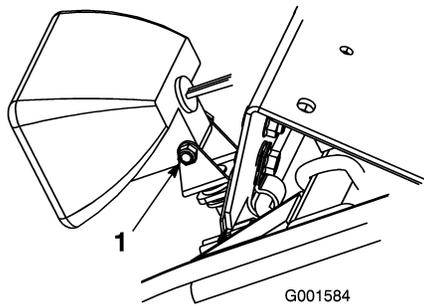

Figure 20
- 6. Set each lamp to the desired position and tighten the nut on the lamp bracket (Figure 20).